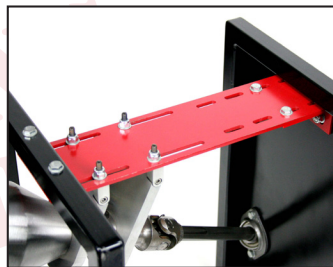

Figure 2
1. Affix your adjustable under dash mount to the firewall and the dash (**Part # 2301000010**). *(Figure 2)* A support may need to be built behind the dash.